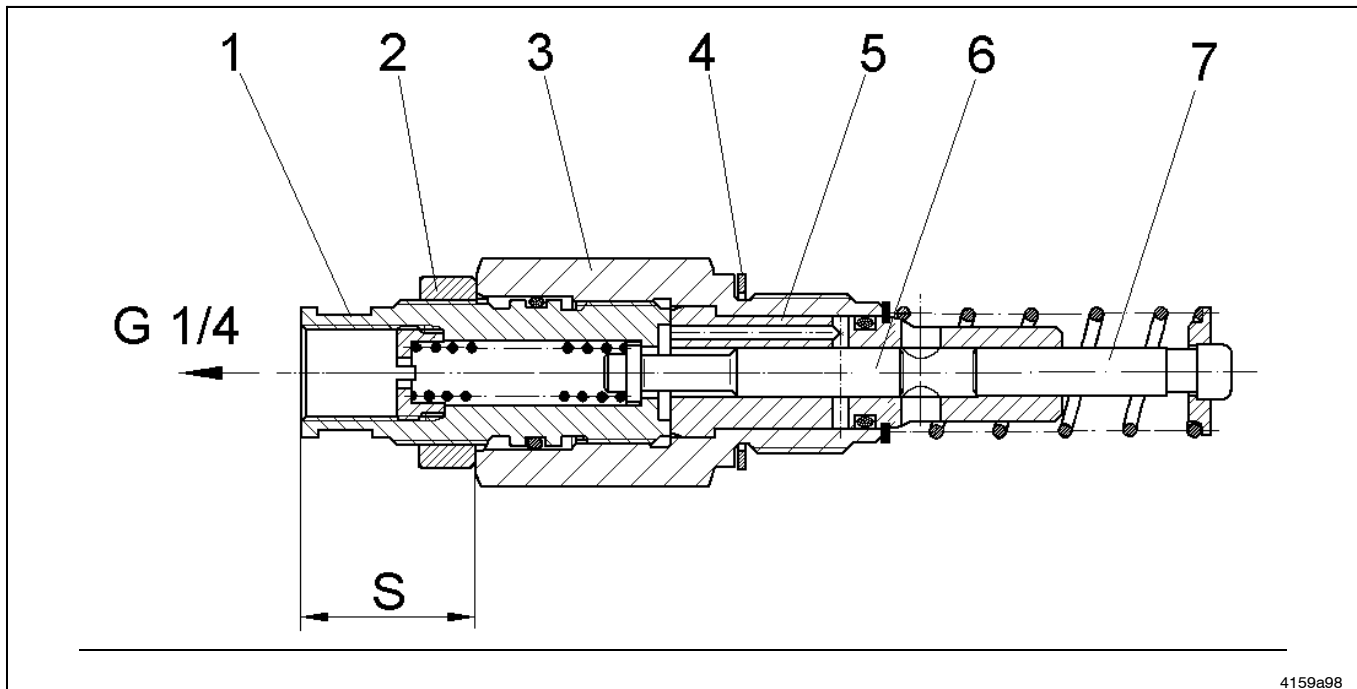
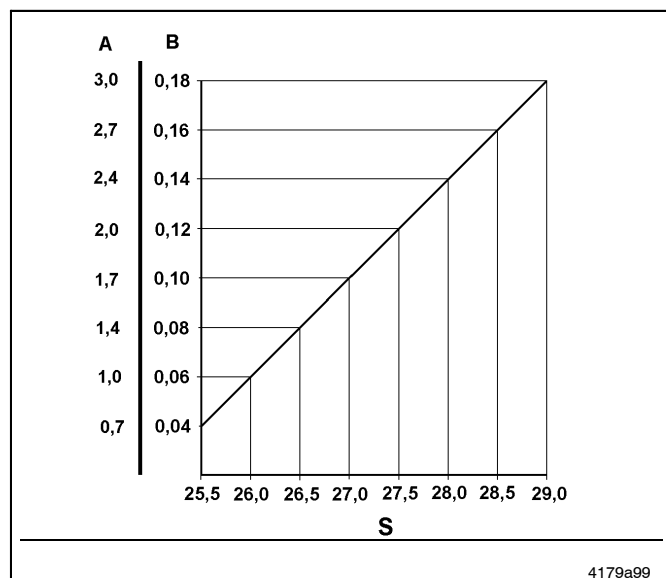

Fig. 14 Sectional view: adjustable element
Fig. 15 Supply diagram
- The pump elements are factory-set to the maximum lubricant output; the adjusting dimensions "S" should be 29 ± 0.1 mm (see fig. 14, page 14).
- The dimension "S" (fig. 14) for the desired lubricant output can be ascertained by using the supply diagram (fig. 15).
1) All indications of positions refer to fig. 14.
- Dimension "S" must be adjusted to the desired value in accordance with the delivery diagram (fig. 15).
1) All indications of positions refer to fig. 14, page 14.